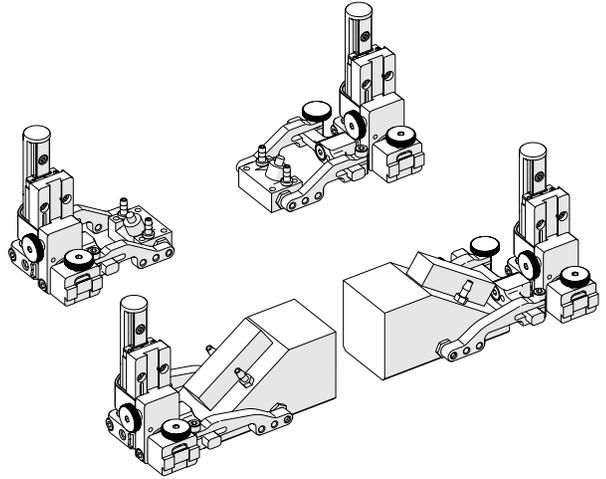

Fig. 93 - Mount probes and wedges to probe holders
1. Mount the appropriate phased array and TOFD wedges (Fig. 93) to the probe holders (see "Vertical Probe Holder" on page 14).